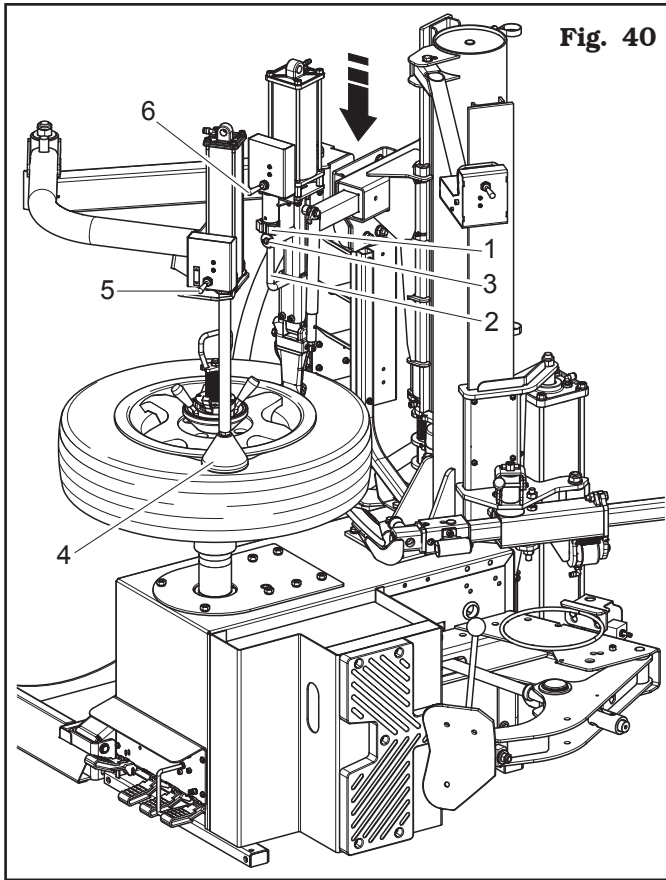
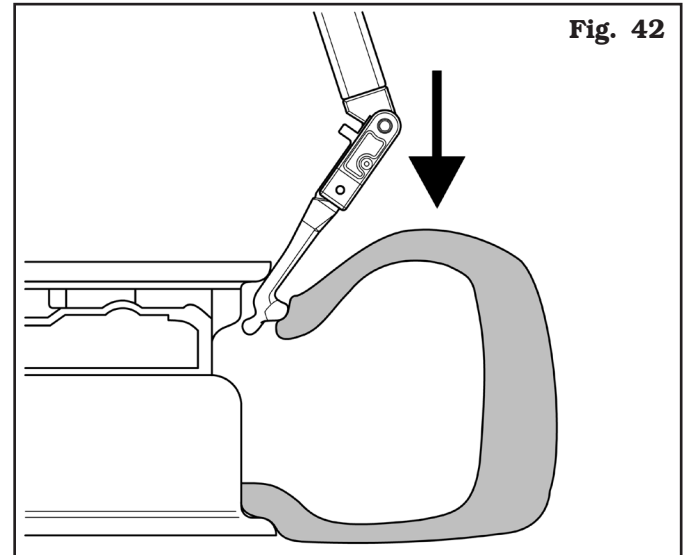
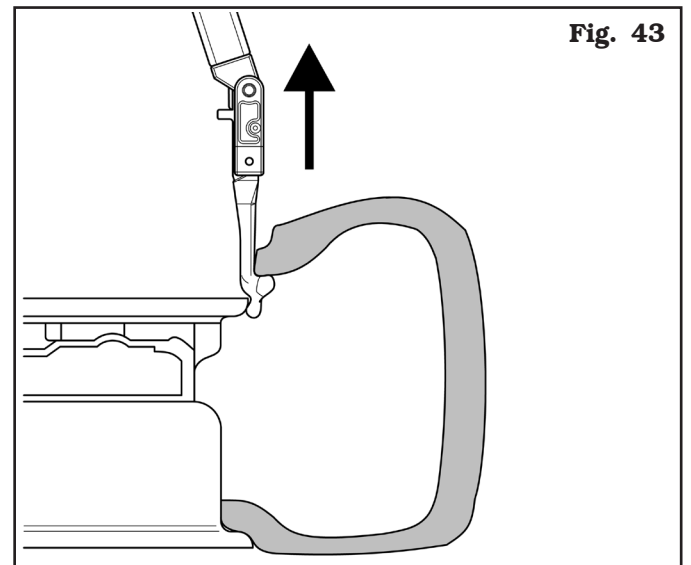
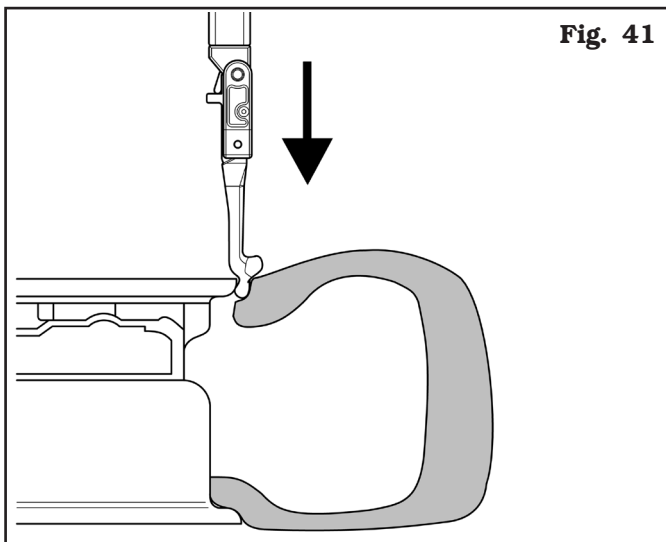

Fig. 40
Fig. 42
Fig. 43
Fig. 41
2. Define the tool position on the rim edge pressing the push-button (**Fig. 40 ref. 1**). Position the tool correctly on the rim diameter (see **Fig. 41**) through the handle (**Fig. 40 ref. 2**). If necessary perform a horizontal adjustment of the tool arm after unlocking it trough the button (**Fig. 40 ref. 3**), placed on the handle itself.
3. Place the presser cone (**Fig. 40 ref. 4**) (if present) in "4 o'clock" position from the machine-head axis and press on the tyre operating the lever of the control unit (**Fig. 40 ref. 5**) downwards, until the tyre bead is placed next to the rim groove.
- Lower the lever (**Fig. 40 ref. 6**) so that the tool penetrates between the rim and the tyre (see **Fig. 42**). While this operation is being effectuated, the tool rotates around the rim edge until it hooks the tyre bead (see **Fig. 43**).
- Lift the tool using the lever (**Fig. 40 ref. 6**). When the tool reaches a vertical position related to the rim (**Fig. 44 ref. 1**), rotate the mandrel so that the tyre enters the rim channel. Keep on raising the tool until the bead is on the rim edge (see **Fig. 43**).
**MAKE SURE THE TOOL IS IN DEMOUNTING POSITION (FIG. 43) BEFORE STARTING MANDREL ROTATION.**